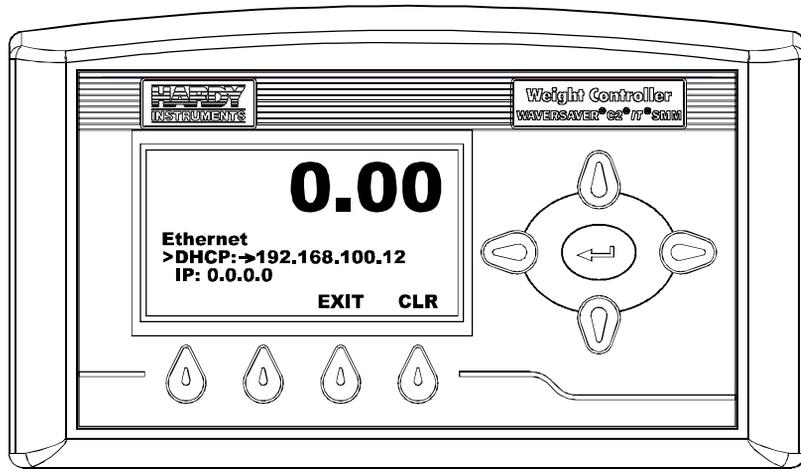

FIG. 113 ETHERNET MENU/DHCP DOES NOT SHOW ALL THE IP ADDRESS
- Step 1. In the Ethernet Menu, press the up or down arrow buttons until the cursor is in front of DHCP. The DHCP address in our example shows 192.168.100.12. The actual address is “192.168.100.128”. The “8” is not displayed. (See Fig. 113)